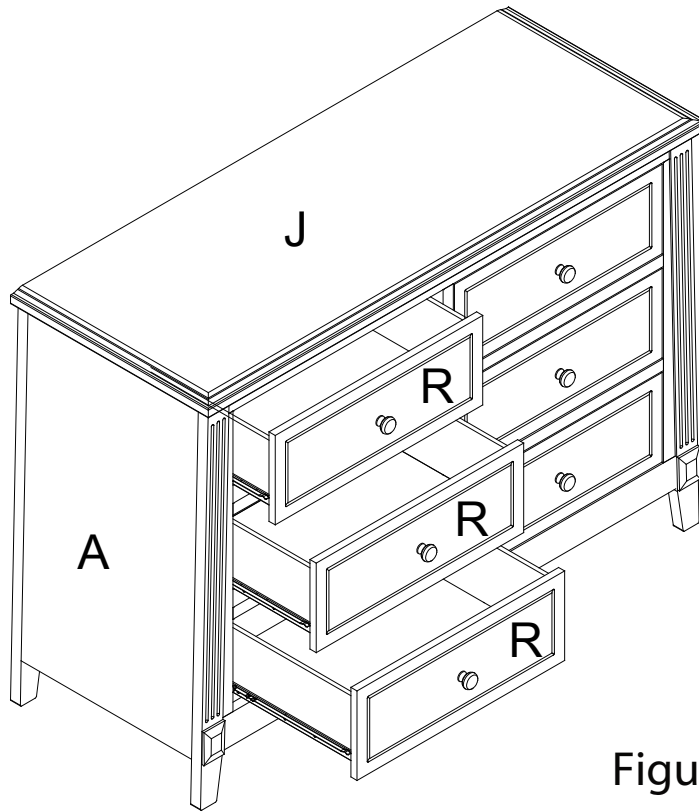

Figure 6
- ⑥ Assembly the drawer as Figure 6.